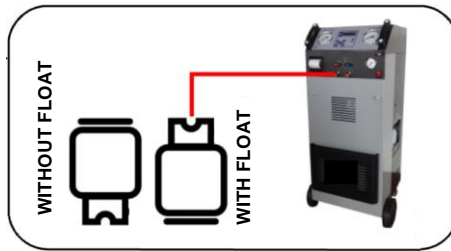

Figure 6
- Connect the external gas tank to the station using the high pressure coupling (**RED**), orienting the tank as in Figure 6 according to float presence or absence.